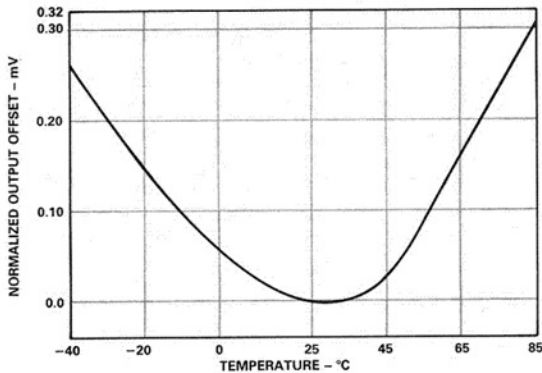

Figure 10. Normalized Output Offset Voltage (mV) vs. Temperature (°C) with an AD208 Gain of 1 V/V, with  $V_S = 15\text{ V pk-pk}$ , 25 kHz Square Wave
**Output Offset Voltage.** The normalized output offset voltage drift from the initial offset measured at +25°C is presented in Figure 10 over the rated -40°C to +85°C temperature range.